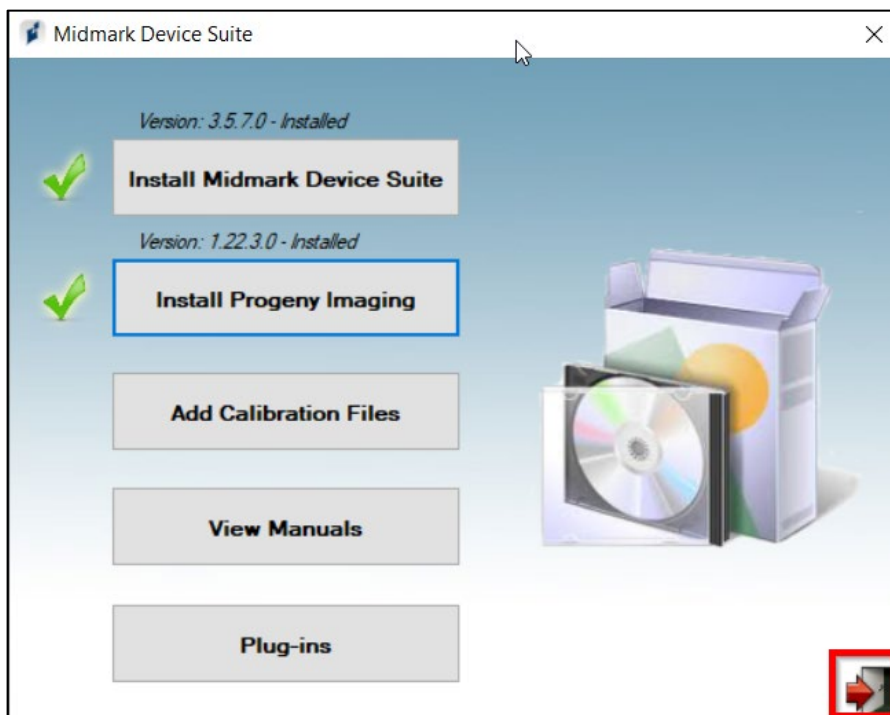

Figure 15. Midmark Device Suite and Progeny Imaging have been successfully installed.
- The main installation screen will now show a green checkmark next to “Install Progeny Imaging” in addition to “Install Midmark Device Suite” to indicate that both are now installed. Click on the door icon in the lower-right corner to close out the window. See Figure 15 below.